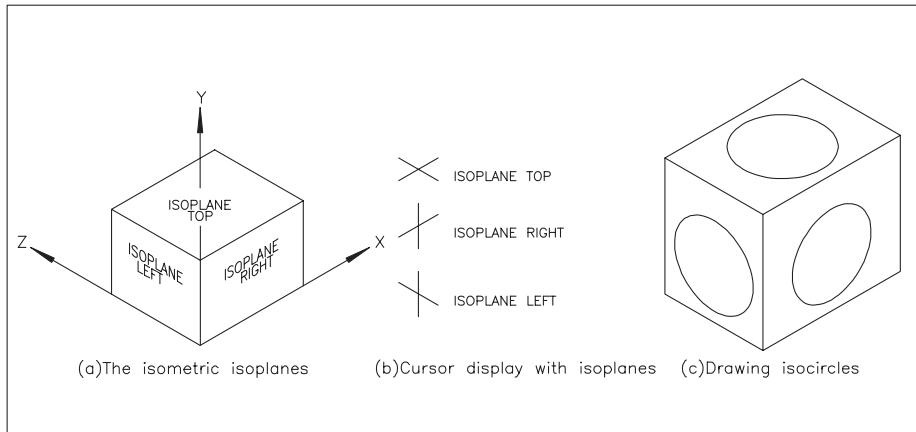

Figure 32.2 Three isometric concepts.
- c) The three planes are designated by two of the X, Y and Z axes as shown in Figure 32.2(a) and are:
- 2 When an isoplane is 'set' or 'current', the on-screen cursor is aligned to the axes of the isoplane axis as displayed in Figure 32.2(b).
- 3 a) Using the isometric grid as a guide and with the snap on, draw a cuboid shape as Figure 32.2(c)